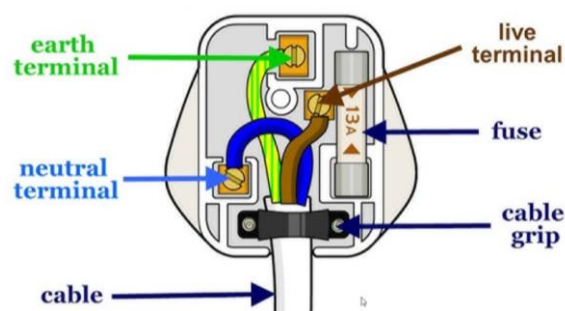

Figure 3. Electric Plug
- Figure 3 [https://keystagewiki.com/index.php/Neutral Wire](https://keystagewiki.com/index.php/Neutral_Wire)